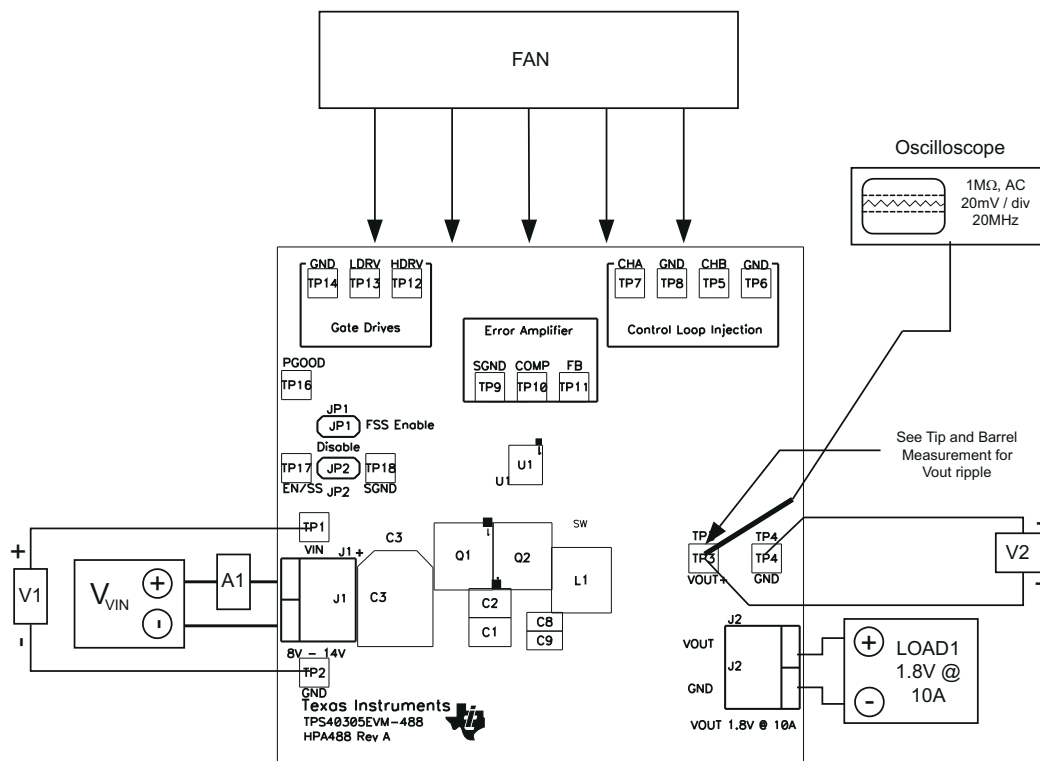

Figure 5-1. TPS40305EVM-488 Recommended Test Setup
Shown in Figure 5-1 is the basic test set up recommended to evaluate the TPS40305EVM-488. Note that although the return for J1 and JP2 are the same system ground, the connections should remain separate as shown in Figure 5-1.
2. Prior to connecting the DC input source, V_{IN} , it is advisable to limit the source current from V_{IN} to 3.0-A maximum. Make sure V_{IN} is initially set to 0 V and connected as shown in Figure 5-1.
3. Connect VIN to J1 as shown in Figure 5-1.
4. Connect ammeter A1 between VIN and J1 as shown in Figure 5-1.
5. Connect voltmeter V1 to TP1 and TP2 as shown in Figure 5-1.
6. Connect voltmeter V2 to TP3 and TP4 as shown in Figure 5-1.
8. Place the fan as shown in Figure 5-1 and turn on making sure to blow air directly across the evaluation module.